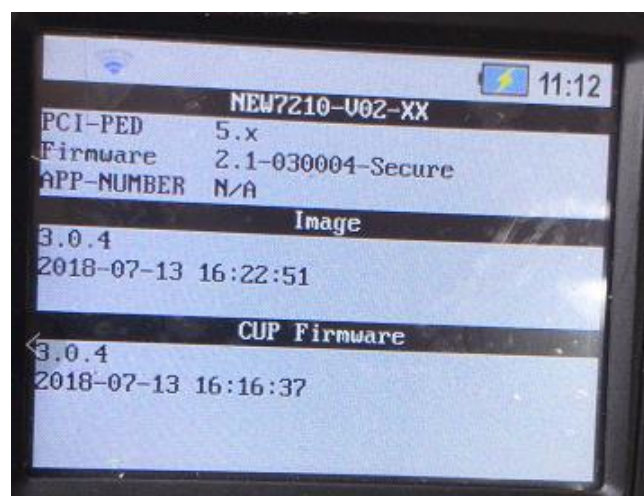

Figure 3: Firmware version
3. You can see the Security Firmware version, as Figure 3.